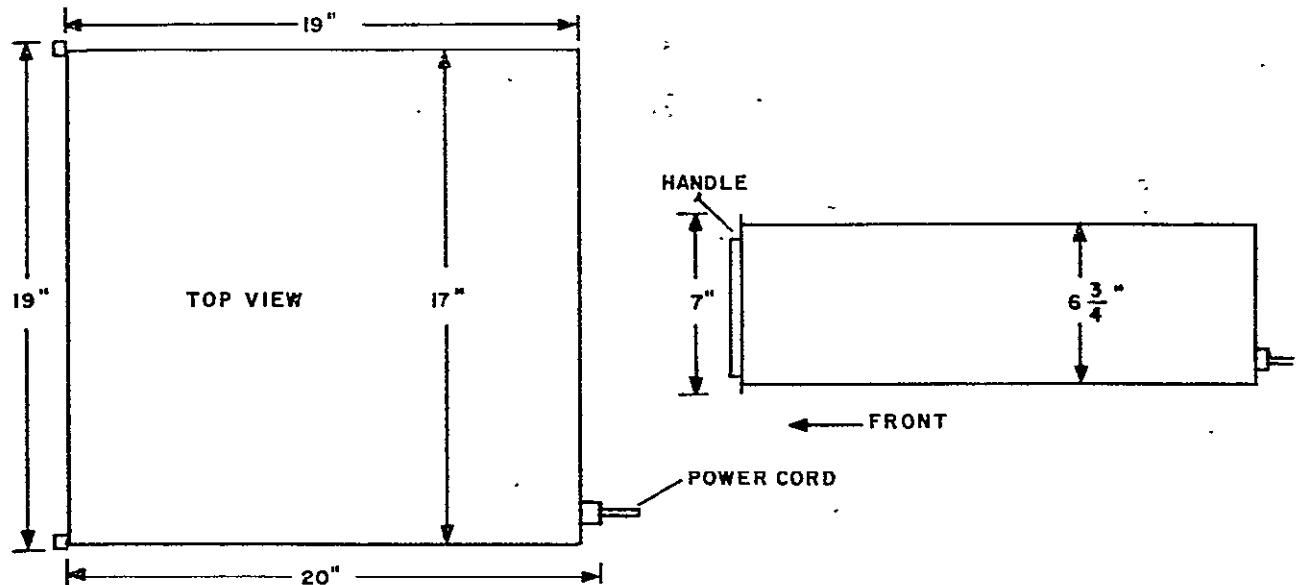
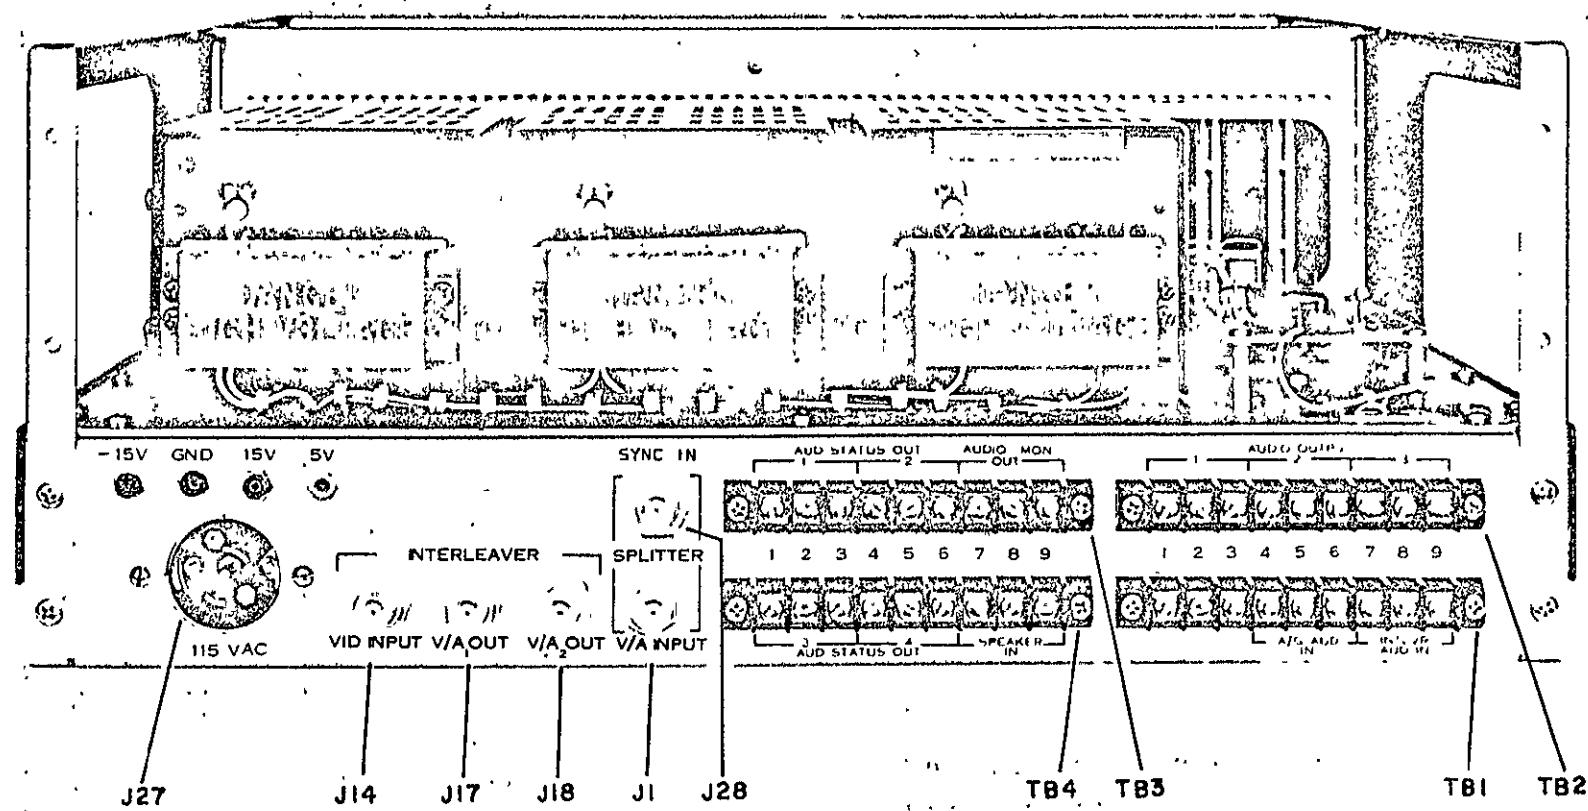
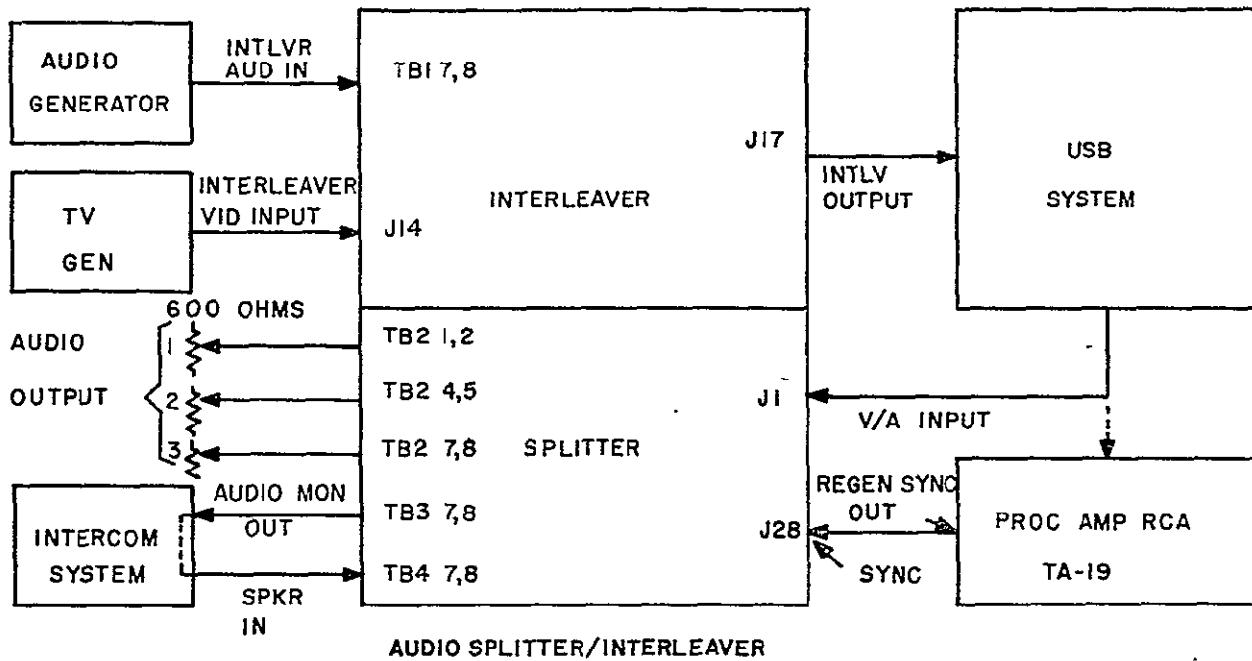

Figure 2-1. Installation Clearance
Figure 2-3. Audio/CTE Splitter/Interleaver, Rear Panel, Interface Connections
Figure 3-11. Audio/CTE Splitter/Interleaver USB System
The Audio/CTE Splitter/Interleaver should be installed in a clean, dust-free area. An air-conditioned area with low humidity and moderate temperature is preferred. Refer to Figure 2-1 (Installation Clearance) for diagram.
2.1.2 Installation in Rack (Refer to Figures 2-1, 2-2)
Signal inputs and outputs are made through connectors located on the rear panel of the unit (refer to Figure 2-3). Sufficient room should be allowed for external connections (refer to Figure 2-1 for installation clearances). Refer to Table 2-1 for cabling information.
2. Figure 2-3. Rear Panel.
1. Connect TV signal generator to INTERLEAVER VID IN connector (J14), located on the rear panel (refer to Figure 2-3).
2. Connect audio signal generator to INTLVR AUD IN terminals (TB1-7,8) on the rear panel (refer to Figure 2-3).
1. Connect the INTERLEAVER V/A OUT 1 (J14) signal to the SPLITTER V/A INPUT Connector (J1), located on the rear panel (refer to Figure 3-11 for connections and Figure 2-3 for location of connectors).